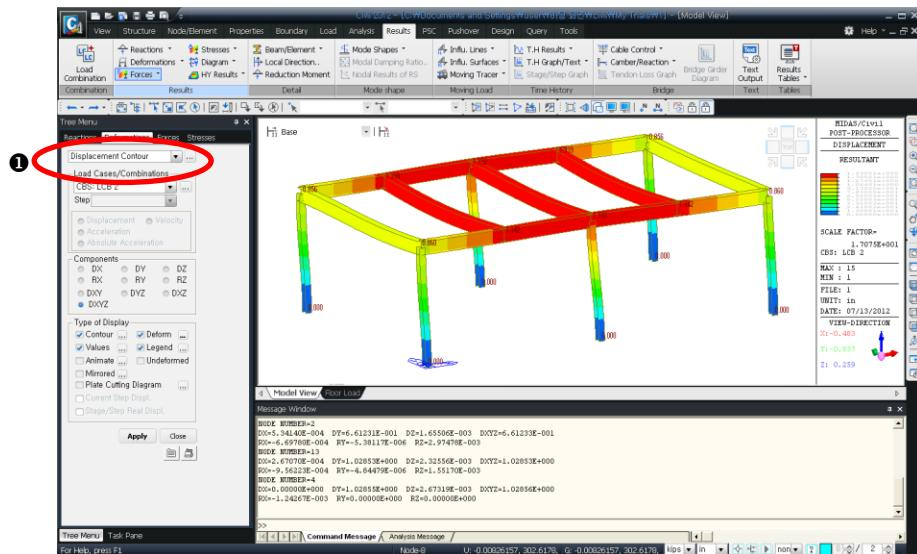

**Figure 1.28 Verification of Displacements at Specific Nodes**
1. Select **Search Displacement** from the functions selection field (Fig.1.28–❶).
3. Select nodes **2, 4** and **13** with the mouse (Fig.1.28–❷).